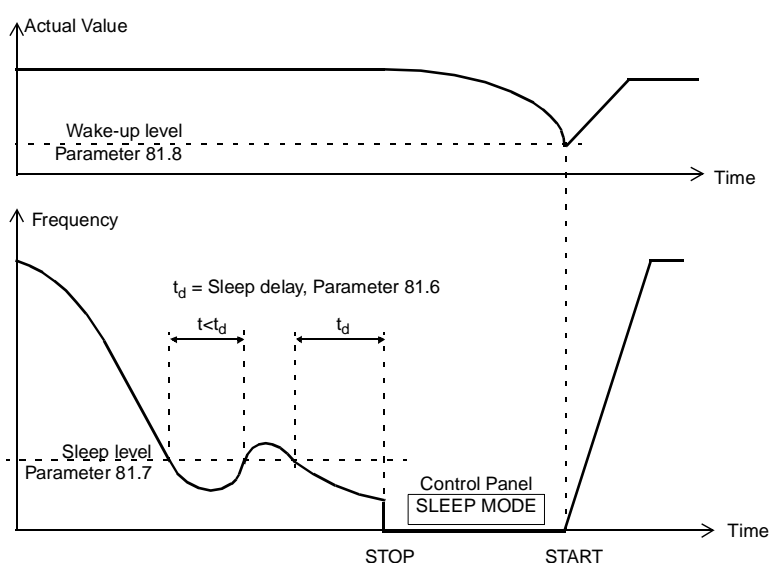

Figure 6-20 Operation of the Sleep function.
81.06 SLEEP DELAY This parameter sets the delay for the Sleep function (See Figure 6-20). If the ACS 600 output frequency is below a set level (81.07 SLEEP LEVEL) longer than the Sleep Delay, the ACS 600 is stopped, and the Control Panel shows the warning message “SLEEP MODE”.
81.07 SLEEP LEVEL This parameter sets the frequency limit for the Sleep function (See Figure 6-20). When the ACS 600 output frequency falls below the Sleep Level the Sleep Delay counter is started. When the ACS 600 output frequency rises above the Sleep Level the Sleep Delay counter is reset.
81.08 WAKE UP LEVEL This Parameter sets the process actual value limit for the Sleep function (See Figure 6-20). When the actual value falls below the limit, the Sleep function is interrupted.